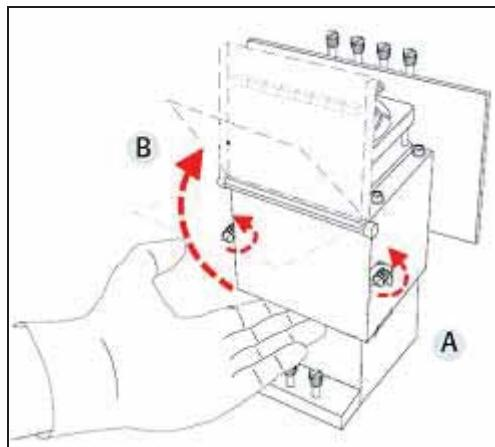

Figure 6-68: Opening the print-head compartment
- a. Open the print head compartment (see figure 6-68 on page 46).